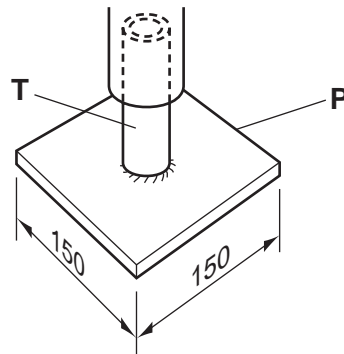

Fig. 17
- (iii) Fig. 17 shows an enlarged view of one foot of the framework.